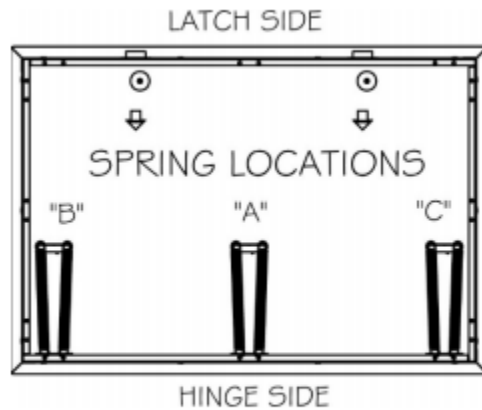

Figure 3
5. Install springs per reference table 1. Self-closure of door is required for UL fire-rating. Neglecting to install springs will void the fire-rating (Figure 3).